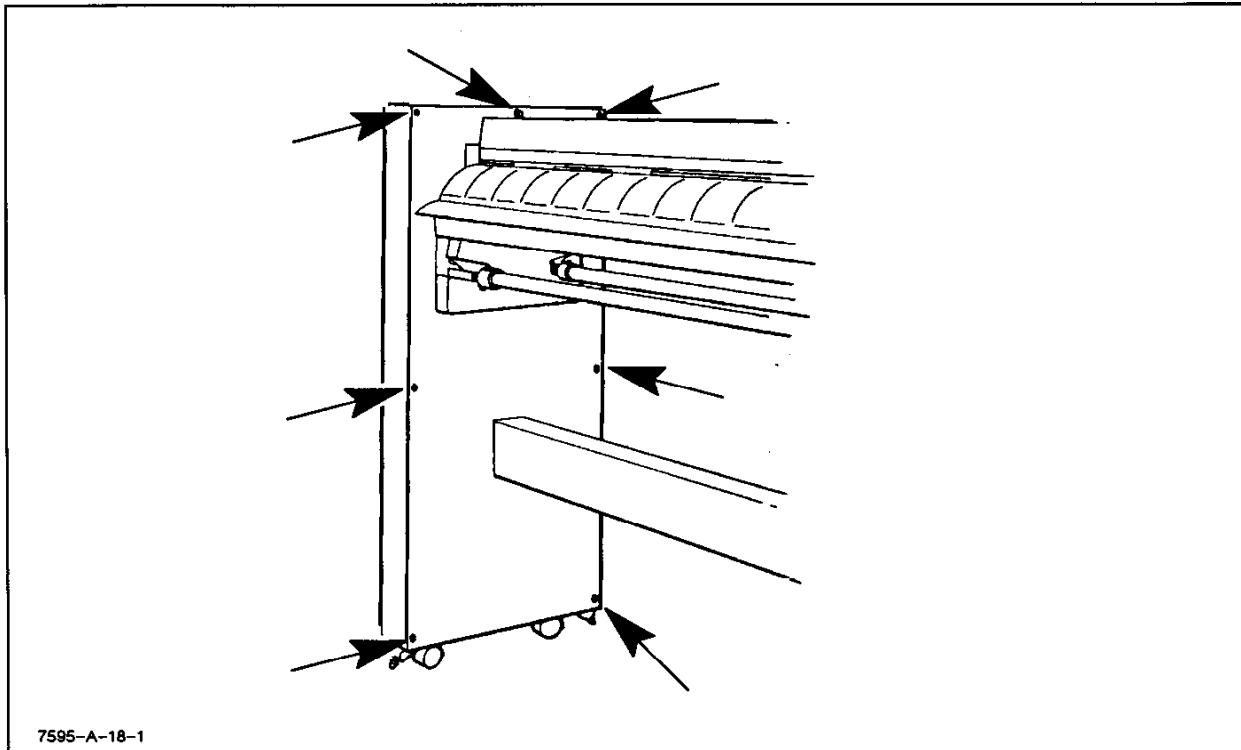

Figure 6-2. Side Cover Removal
- Remove the fourteen screws (Torx #25) that secure the left and right side covers and remove the covers. See Figure 6-2.